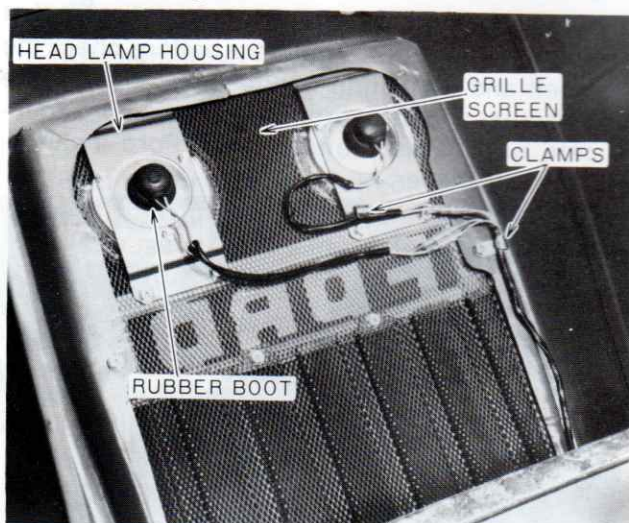

Figure 52 — Headlamp Assembly
2. Remove three nuts securing the headlamp housing to the bracket mounted on the grille screen, Figure 52.